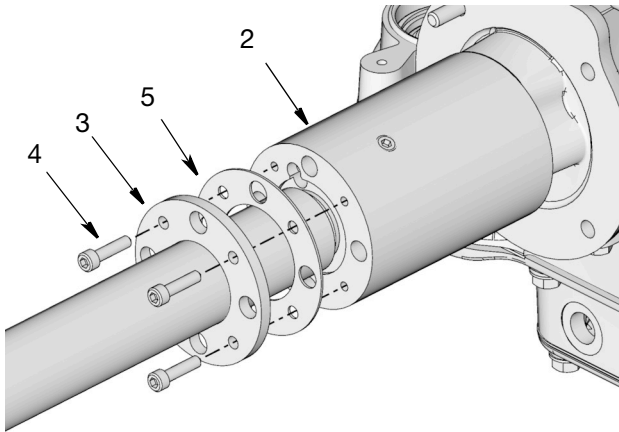

FIG. 21
7. **For Tube-In-Tube models only:** Remove the bolts (4) holding the tube (3) to the pump adapter (2). Remove the tube and gasket (5) and set aside to for reassembly (FIG. 21).